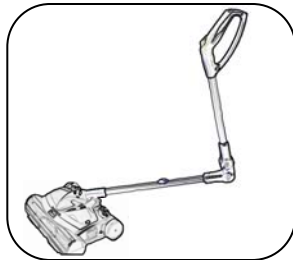

Fig. 11
5. To sweep under furniture, press the handle release button and apply pressure in order to bend the sweeper's handle forward. The top forward folding pivot will release from the locked position for increased range of motion, allowing you to easily reach under sofas, beds, and chairs. (Fig. 11)